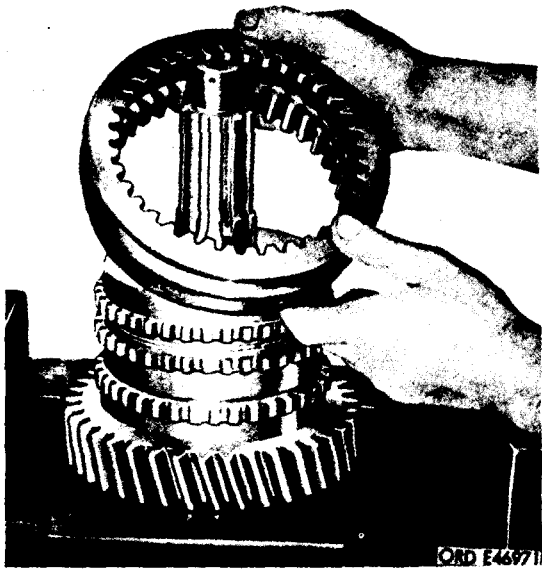
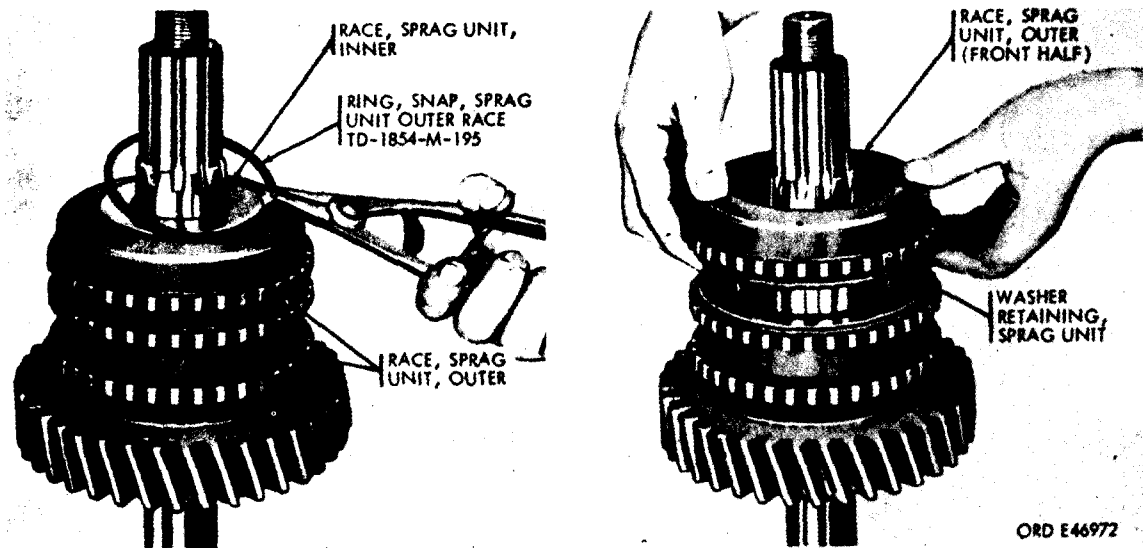

Figure 212. Removing reverse shift collar
Figure 213. Removing front half of sprag unit outer race
- (3) Aline gear teeth of both sprag units with similar teeth on the front output shaft driven gear and lift off reverse shift collar (fig. 212).
- (4) Disassemble sprag unit from front output shaft in the following order.
- (a) Remove sprag unit outer race snap ring and lift off front half of the sprag unit outer race (fig. 213). Use sprag unit retaining washer to prevent sprags from falling out, and turn assembly to left while withdrawing.
- (5) The sprag unit outer race (fig. 213) is only partially disassembled during the removal from the transfer. If complete disassembly of the halves of the outer race is necessary or desired, each half contains 41 sprags and 2 energizing springs which must be removed. The sprag referred to in figure
(b) Outer races (fig. 213). Using the sprag unit retaining washer to hold individual sprags in place, install the rear half of the sprag unit outer race. Turn assembly to right as it is shipped onto inner race. Remove the sprag unit retaining washer and place on the open end of front half of the sprag unit outer race. This will retain individual sprags as the assembly is turned over for installing to shaft. Turn assembly to left while sliding onto inner race. Install new sprag unit outer race snap ring. Slide front output shaft bearing inner spacing washer (LL, fig. 229) over end of shaft.